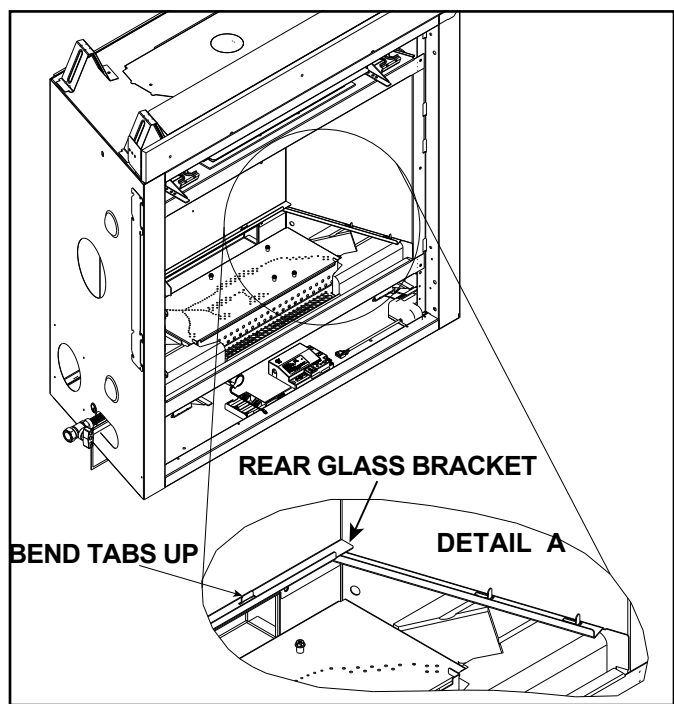

Figure 4. Bend Tabs on Lower Side and Rear Glass Brackets
5. Remove the new rear lower glass bracket from the packaging and bend the hand bend features “up” to about 45 degrees. See Figure 4. Install the new rear lower glass bracket with screws removed in Step 3.
Note: The new lower glass bracket spans the entire width of the back wall of the firebox and rests above the side lower glass brackets. See Figure 4, Detail A.